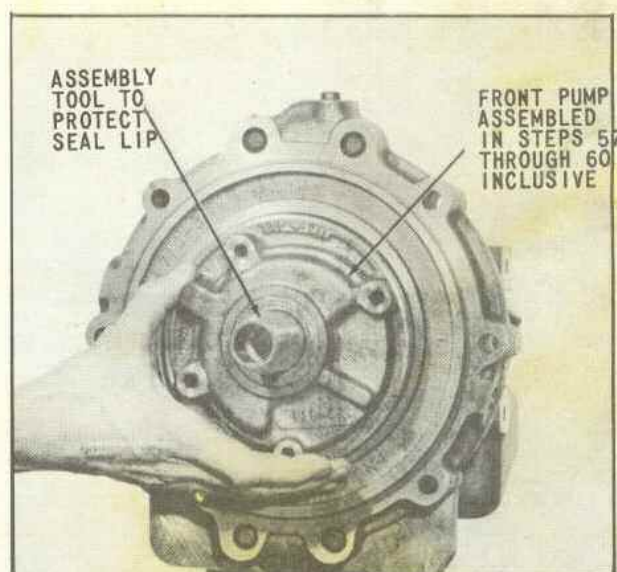

Fig. 67 Installing Pump over Seal Protector
66. With the pump driven gear properly installed in the front pump housing, assemble the housing and pump driven gear squarely over the protruding input shaft and assembly tool. A slight rotation of the pump housing and pump driven gear will allow engagement of pump gear teeth, (Fig. 67).